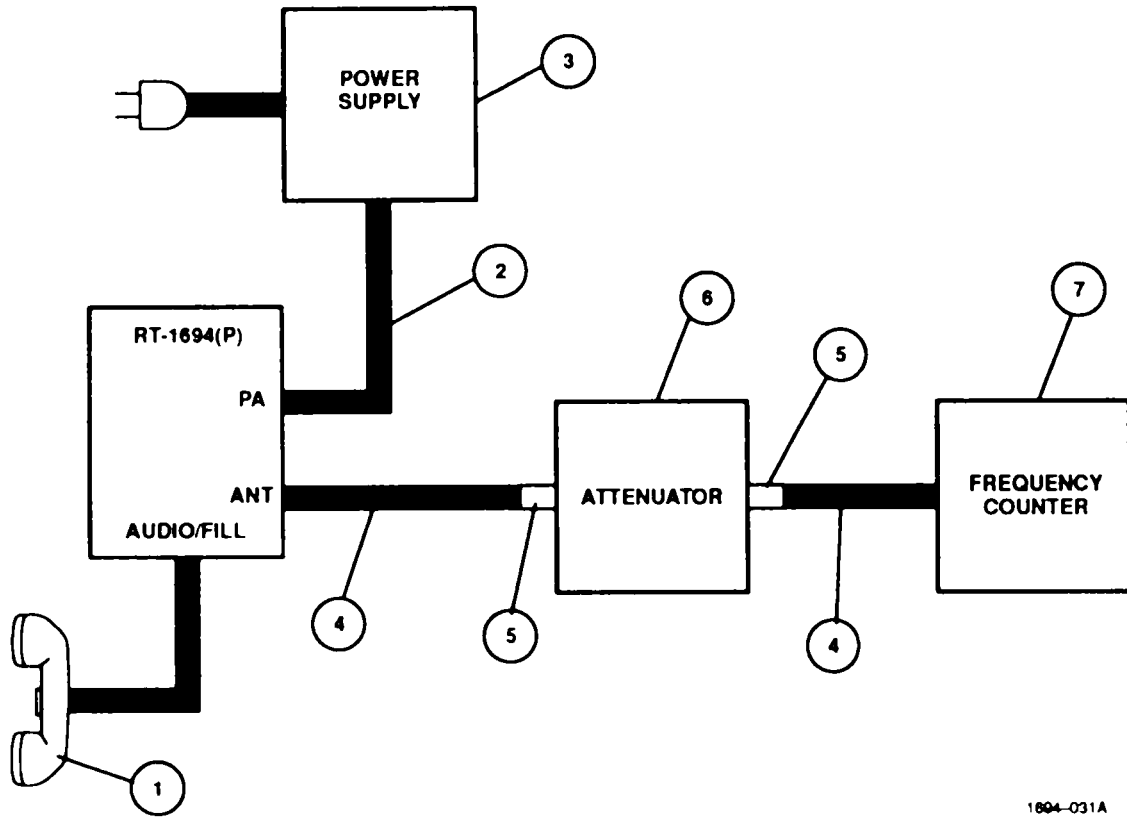

Figure 4-3. Transmit Frequency Measurement Test Set Up
- a. Set up the test bed radio system as shown in Figure 4-3.